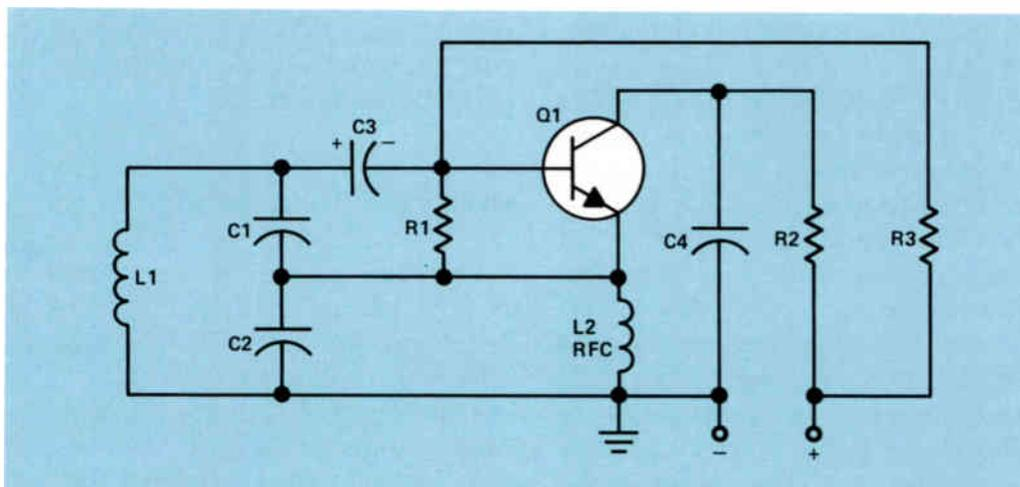

Figure 7. A Colpitts oscillator.
**The Colpitts Oscillator.** The most important of the oscillators using capacitive feedback is the Colpitts oscillator shown in Fig.7. When the equipment is first turned on, current flows
Again, resistor R3 in the circuit shown in Fig.7 is used to place a small starting bias
There are a number of variations of the Colpitts oscillator circuit. Any time you run into an oscillator where the feedback is controlled by a capacitive voltage divider, such as C1 and C2 in the circuit shown in Fig.7, you can be sure that it is some form of Colpitts oscillator. The Colpitts oscillator can be designed with excellent frequency stability. By this we mean that once the oscillator is adjusted to operate at a
developed across the rf choke, L2, and this voltage will charge C3. Once the capacitor is charged, oscillation starts in the circuit just as in the Colpitts oscillator shown in Fig.7.